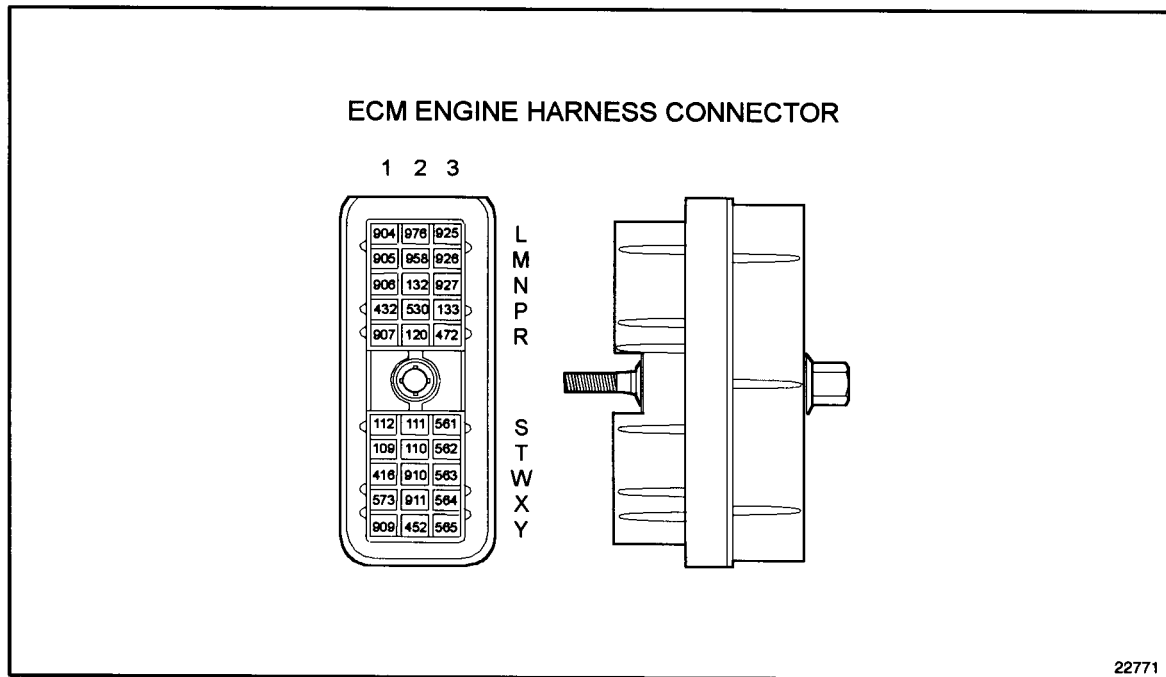

Figure 15-11 ECM Engine Harness Connector
1. Check terminals at the ECM engine harness connector (both ECM and harness side) for damage: bent, corroded and unseated pins or sockets. Check terminals MR2 and Y2 of the ECM connector. See Figure 15-11.